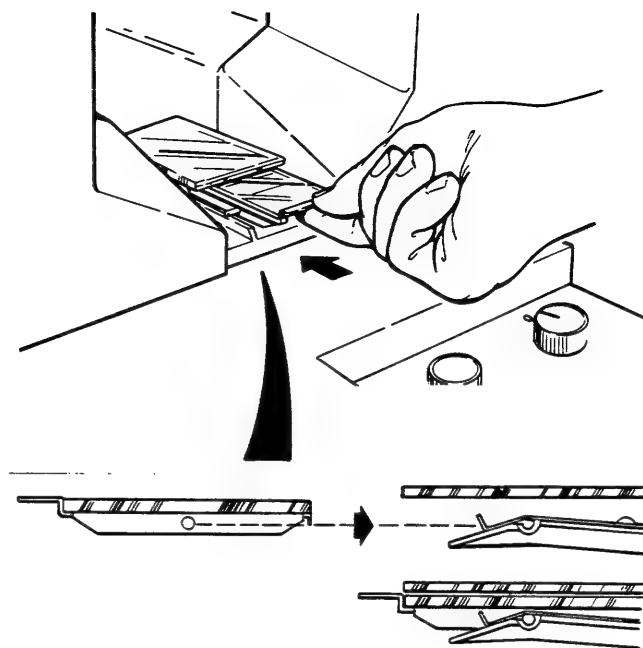

Figure 2-3E
7. Install the Lower Glass Flat Assembly (Figure 2-3E).